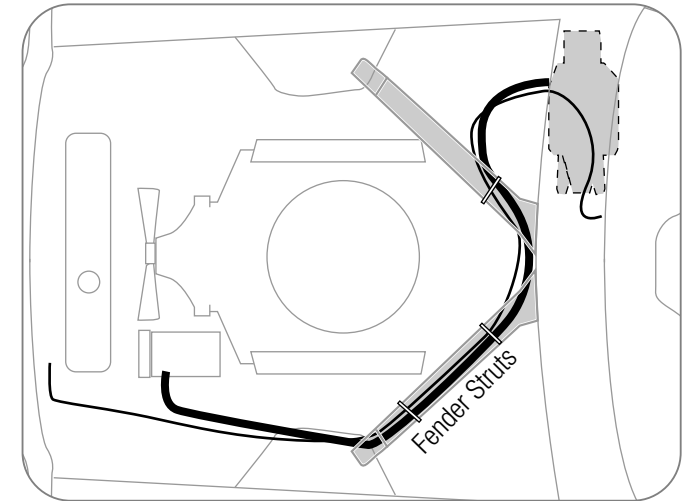

FIGURE 41
- 2) Attach the #6 liquid hose (5/16") to the drier and route thru the remaining hole previously drilled into the core support and along the underside of the fender struts, around the engine, and to the connection at the firewall on the evaporator unit (see figure 41). Using supplied zip-ties you'll attach this hose, the suction hose and the lead from the high pressure switch to the strut braces, securing all three at once. Tighten fittings using o-rings and mineral oil supplied in kit.